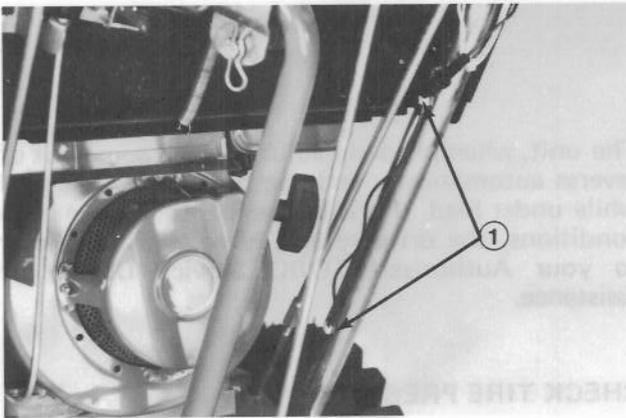

Figure 15
5. Install wire retainers in handle to secure wire (Fig. 15).